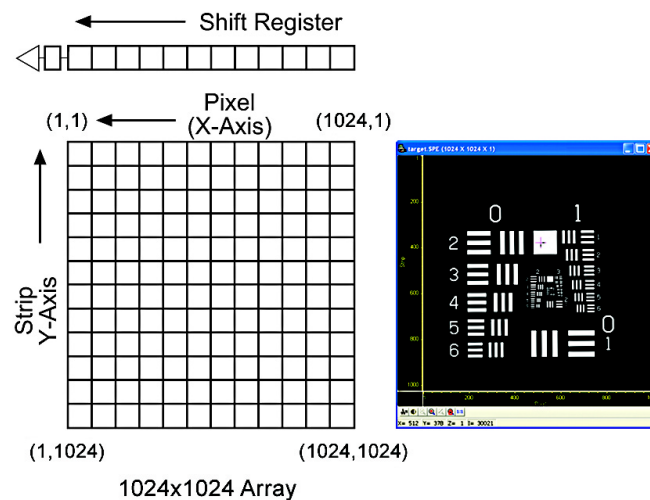

Figure 85. Assumed Array Orientation
2. References to X and Y axes assume that the shift register is parallel to the X-axis and that the data is shifted to the shift register in the Y direction. See Figure 85 below.